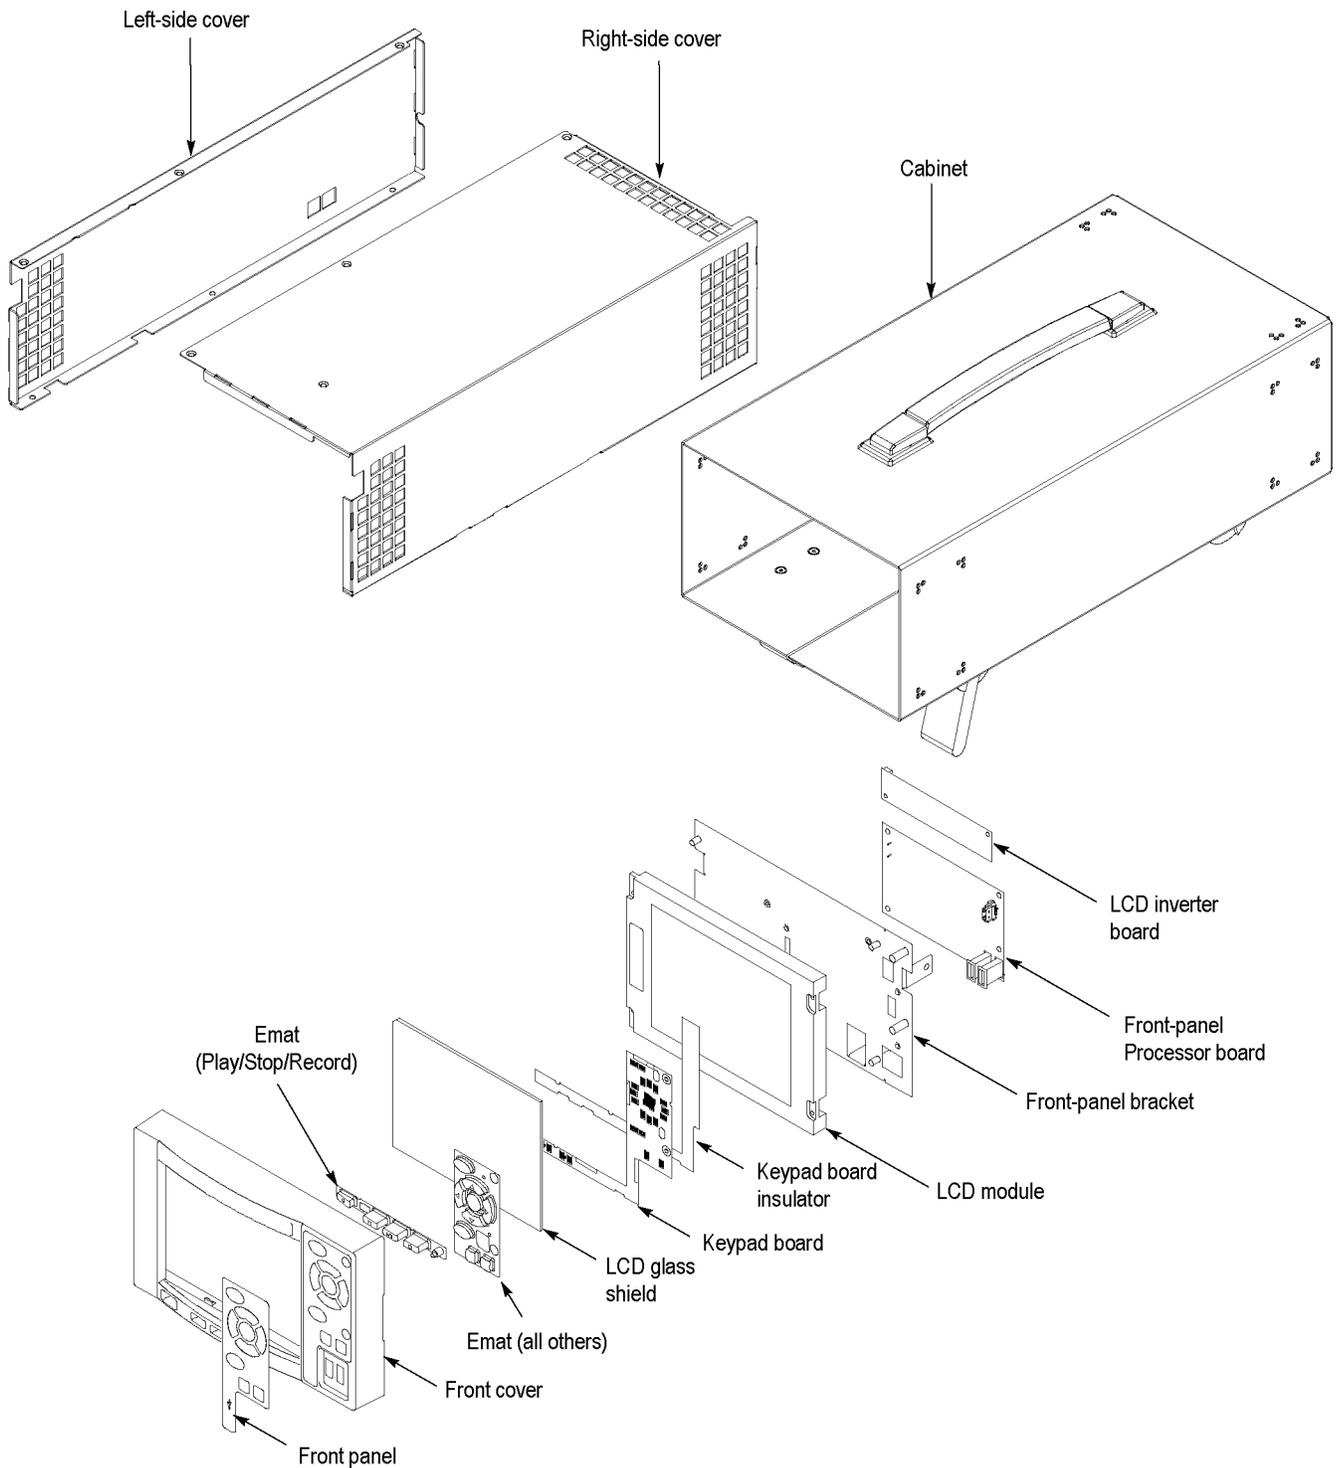
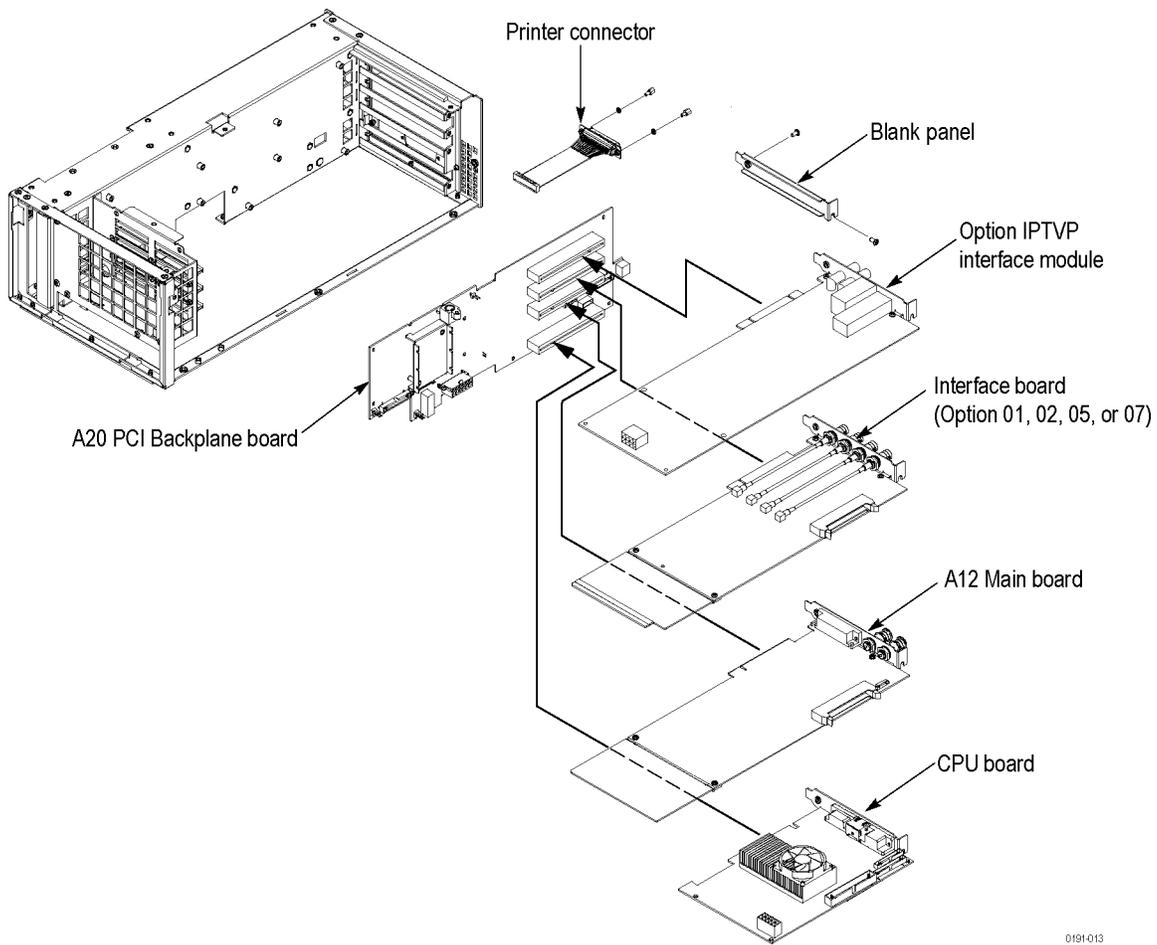
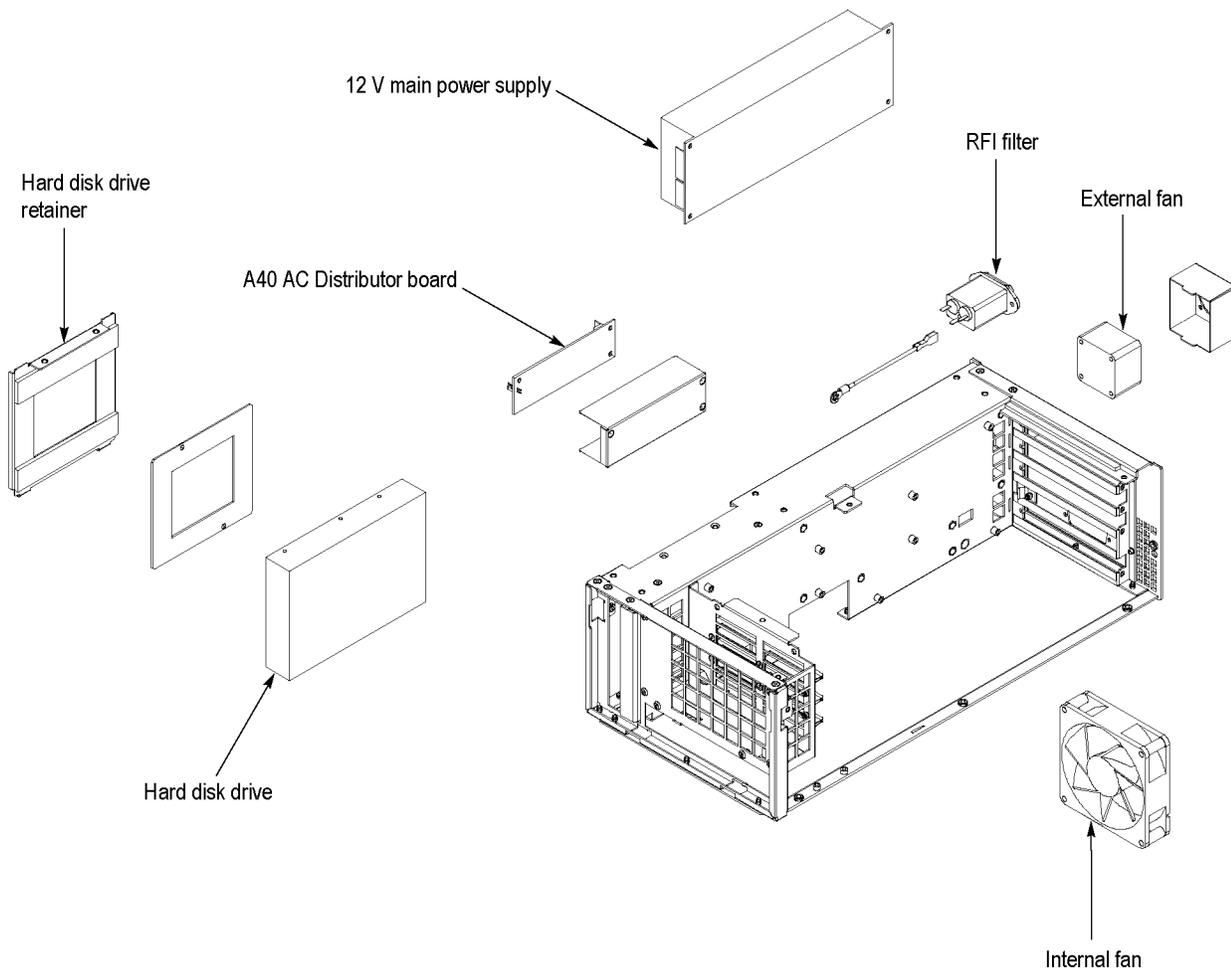

Figure 3-2: External modules
Figure 3-3: Board modules
Figure 3-4: Internal modules
- Three module locator diagrams for finding the External modules, Board modules, and Internal modules. (See Figure 3-2 on page 3-9.) (See Figure 3-4 on page 3-11.)
1. Locate the module you want to remove in the three figures to determine whether it is an external module, a board module, or an internal module. (See Figure 3-2.) (See Figure 3-3.) (See Figure 3-4.)
- b. Locate the cabinet in the locator diagram *External modules*. (See Figure 3-2.)
- b. Locate the right-side cover in the locator diagram *External modules*. (See Figure 3-2.)
- b. Locate the left-side cover in the locator diagram *External modules*. (See Figure 3-2.)
- b. Locate the front-panel unit in the locator diagram *External modules*. (See Figure 3-2.)
- b. Locate the front-panel assembly in the locator diagram *External modules*. (See Figure 3-2.)